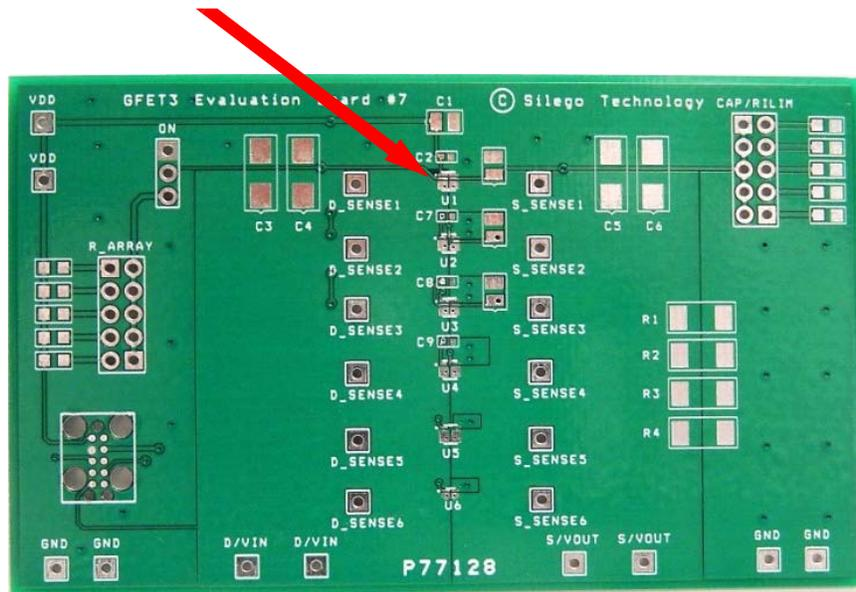

Figure 1. SLG59M1457V Evaluation Board.
2. Since the D and S pins dissipate most of the heat generated during high-load current operation, it is highly recommended to make power traces as short, direct, and wide as possible. A good practice is to make power traces with an absolute minimum widths of 15 mils (0.381 mm) per Ampere. A representative layout, shown in Figure 1, illustrates proper techniques for heat to transfer as efficiently as possible out of the device;
A GFET3 Evaluation Board for SLG59M1457V is designed according to the statements above and is illustrated on Figure 1. Please note that evaluation board has D_Sense and S_Sense pads. They cannot carry high currents and dedicated only for RDS_{ON} evaluation.